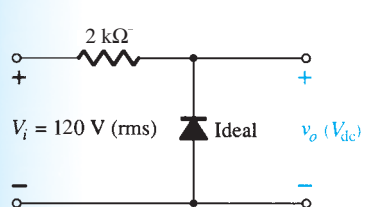

FIG. 2.170
25. For the network of Fig. 2.170, sketch v_o and determine V_{dc} .